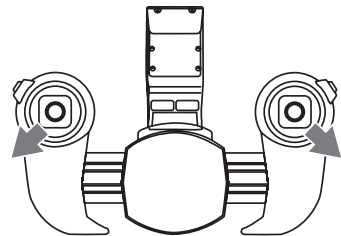

Figure 9
- Start the rotors by putting both control levers as shown in figure 9. The rotors start up.
- Now, put both control levers into the neutral position. Pull and hold both control levers to the position that you used for starting the rotors (see figure 9) for approx. two seconds to switch off the rotors again.
- Try to touch down where possible in vertical position ("helicopter landing"). Avoid landing with high horizontal speeds ("airplane landing"). If you have not done so yet, switch off the motors after landing (see figure 9).